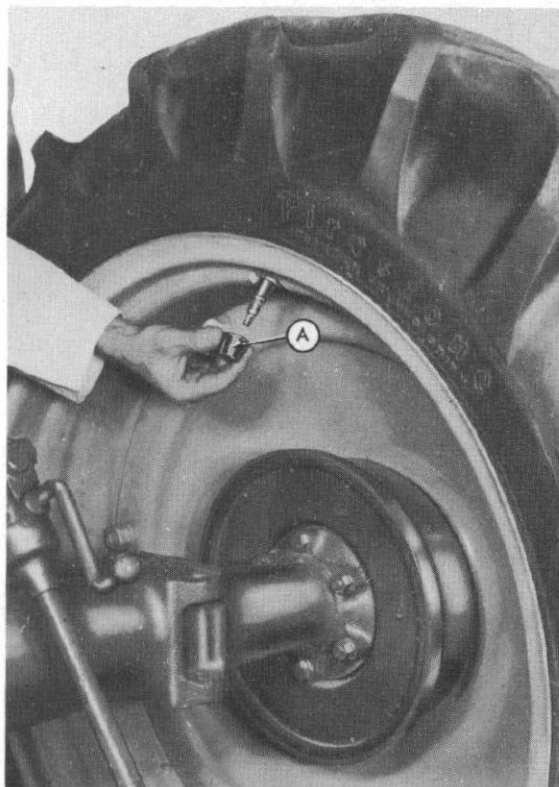

Fig. 1
Step 6—Jack up the wheel on which the tire to be filled is mounted. Turn the wheel until the valve is at top center as shown in Figure 1.
- Step 7—Remove the valve mounting cone (A-Figure 1).